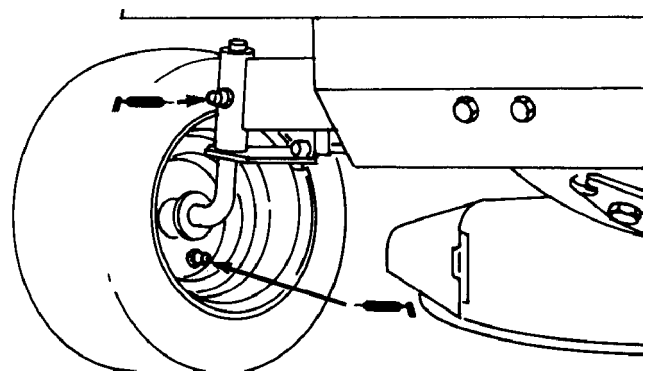

Figure 15
1. Lubricate the front wheels and spindles until grease begins to ooze out of the bearings (Fig. 15).